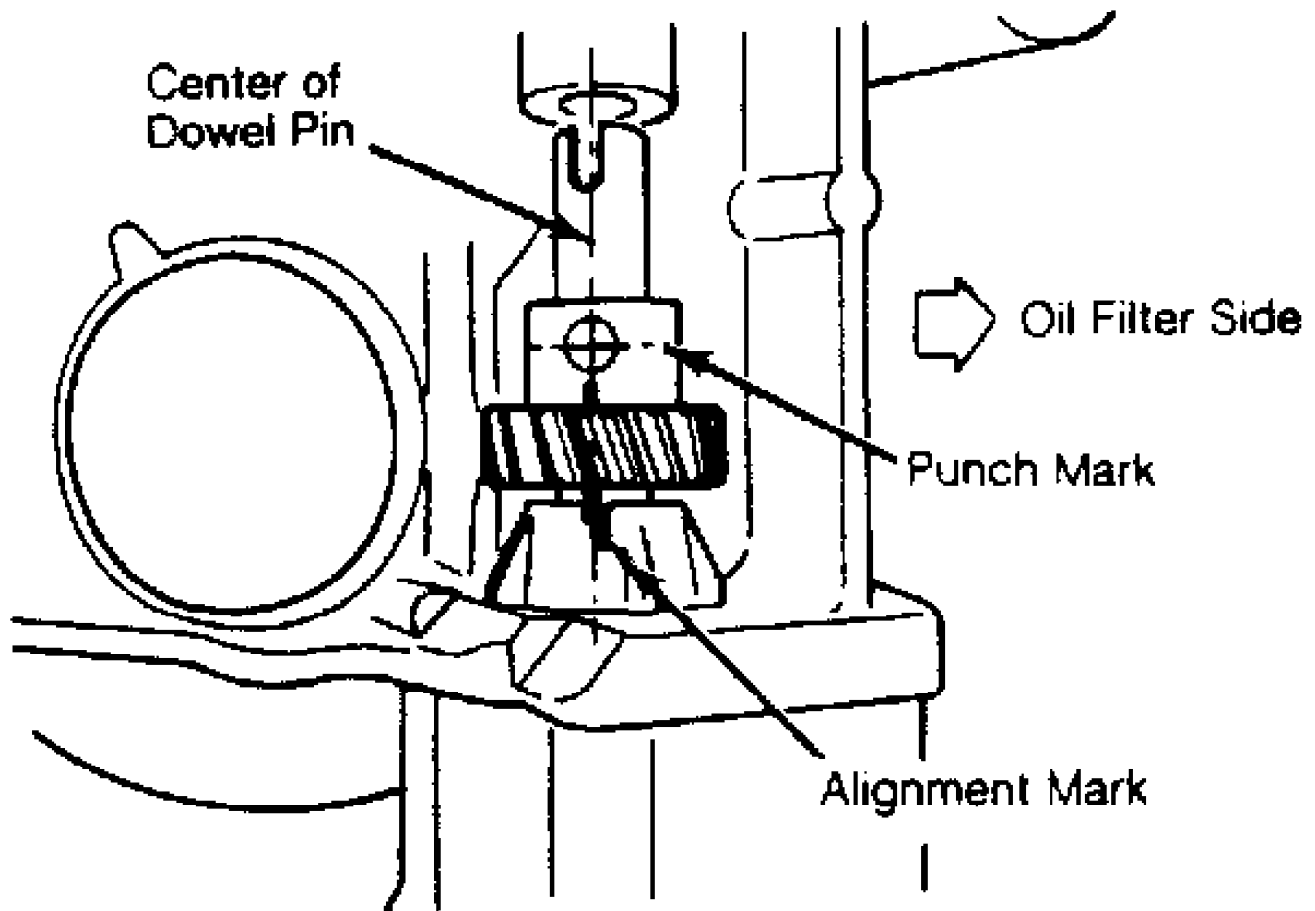

Fig. 4: Aligning Oil Pump for Front Cover Installation on 1.9L Models
1) Clean gasket surfaces. Install new front cover gasket. Align center of dowel pin with alignment mark on oil pump case. See Fig. 4.